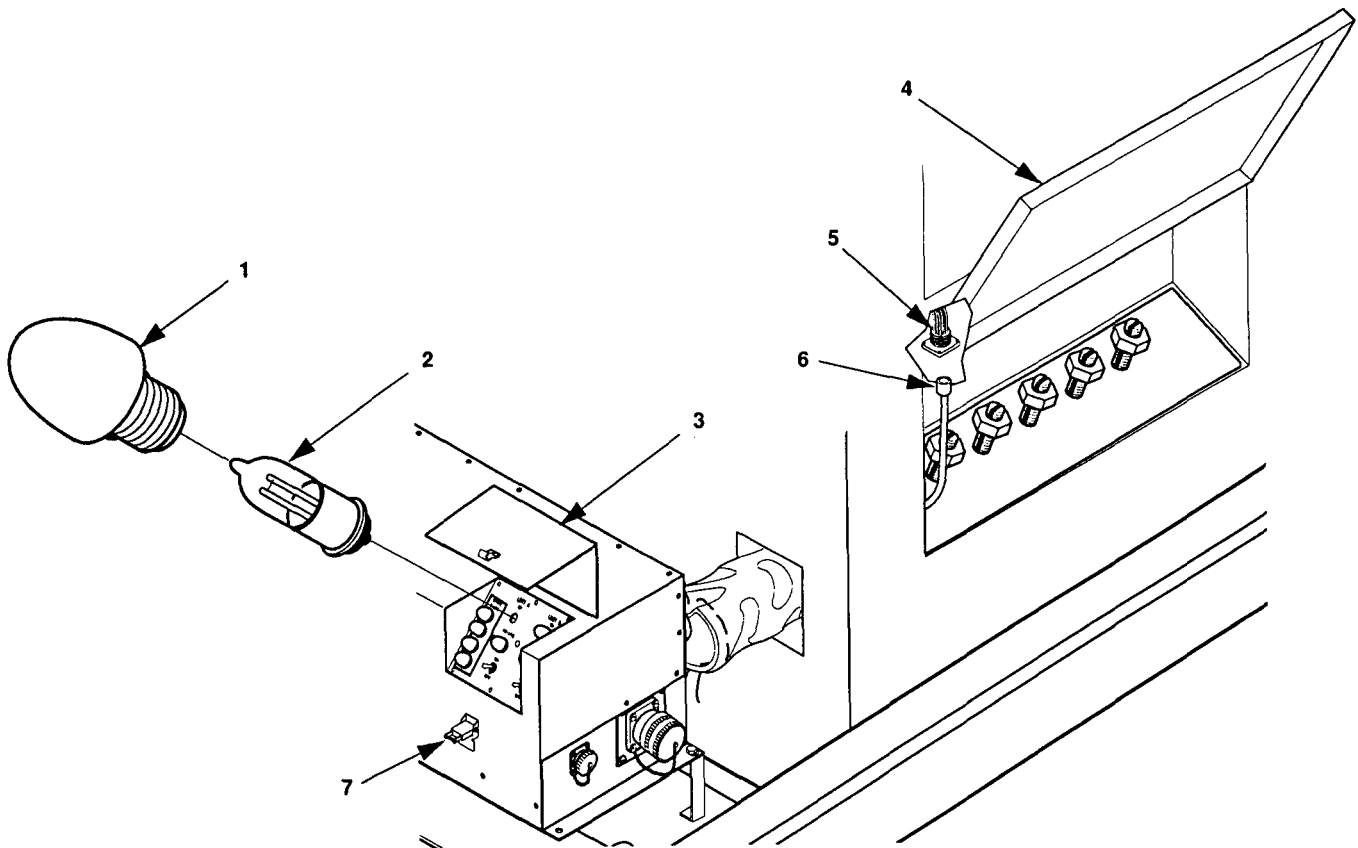

Figure 3-5. Indicator Lamps and P1 Connector Maintenance.
1. Release clamping catch (7, figure 3-5) and open control panel access cover (3).
2. Grip and unscrew lens cap (1).
3. Remove lamp (2) by grasping the base and pulling outward.
1. Open access panel (4, Figure 3-5) to unit A generator load terminals.
2. Connect P1 (6) to J16 (5) inside generator set.